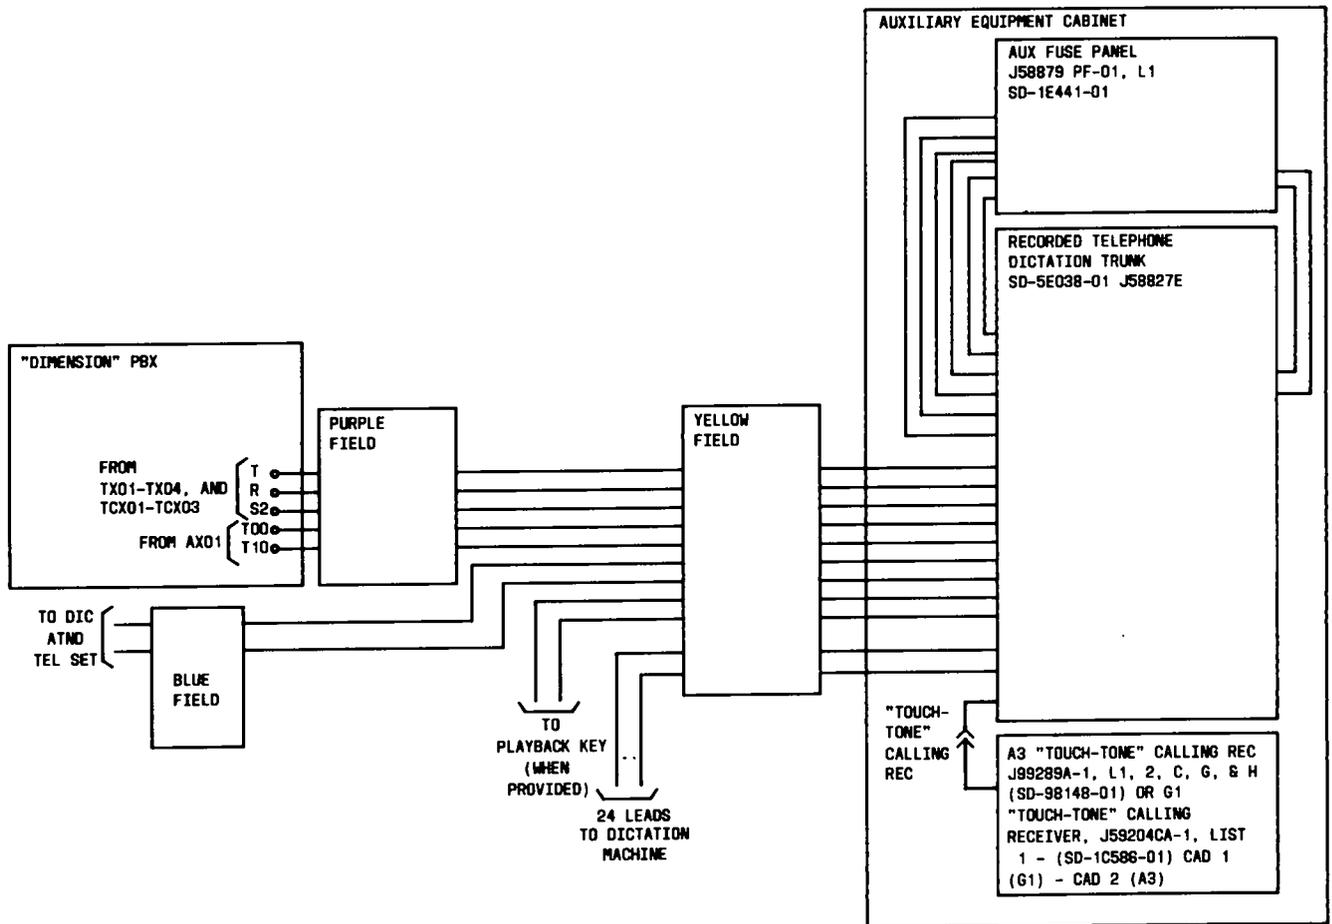

Fig. 40—Block Diagram of Recorded Telephone Dictation Trunk Connections
4.113 The equipment required for recorded telephone dictation access is listed in Table I. The recorded telephone dictation trunk is compatible with the A3 or the G1 auxiliary TOUCH-TONE calling receivers. Figure 40 is a block diagram of the wiring connections for recorded telephone dictation access. The leads between the PBX and the recorded telephone dictation trunks must not be exposed.